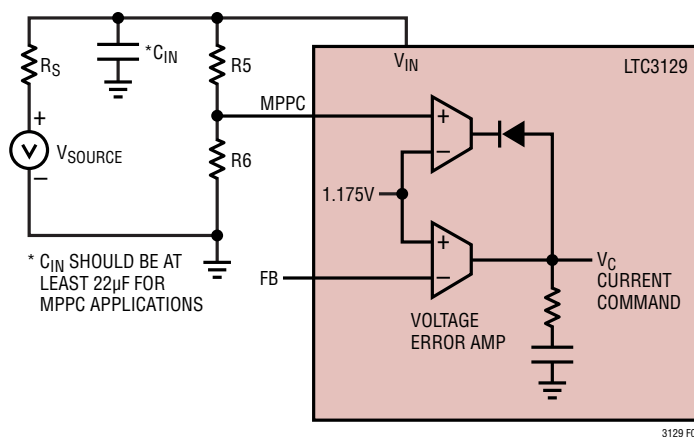

Figure 3. MPPC Amplifier with External Resistor Divider
**MPPC (Pin 5/Pin 3):** Maximum Power Point Control Programming Pin. Connect this pin to a resistor divider from VIN to ground to enable the MPPC functionality. If the VOUT load is greater than what the power source can provide, the MPPC will reduce the inductor current to regulate VIN to a voltage determined by:  $V_{IN} = 1.175V \cdot [1 + (R5/R6)]$  (see Figure 3). By setting the VIN regulation voltage appropriately, maximum power transfer from the limited source is assured. Note this pin is very noise sensitive, therefore minimize trace length and stray capacitance. Please refer to the Applications Information section for more detail on programming the MPPC for different sources. If this function is not needed, tie the pin to VCC.
a minimum input voltage when using high resistance sources, such as photovoltaic panels, so as to maximize input power transfer and prevent  $V_{IN}$  from dropping too low under load. Referring to Figure 3, the MPPC pin is internally connected to the non-inverting input of a  $g_m$  amplifier, whose inverting input is connected to the 1.175V reference. If the voltage at MPPC, using the external voltage divider, falls below the reference voltage, the output of the amplifier pulls the internal  $V_C$  node low. This reduces the commanded average inductor current so as to reduce the input current and regulate  $V_{IN}$  to the programmed minimum voltage, as given by:
As discussed in the previous section, the LTC3129 includes an MPPC function to optimize performance when operating from voltage sources with relatively high source resistance. Using an external voltage divider from  $V_{IN}$ , the MPPC function takes control of the average inductor current when necessary to maintain a minimum input voltage, as programmed by the user. Referring to Figure 3: